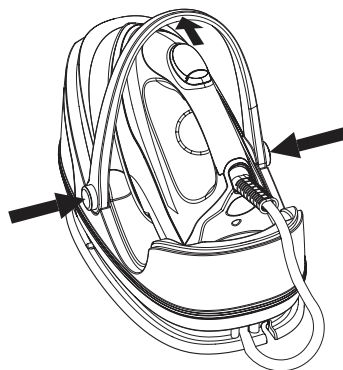

Fig.1
3. Remove the protective foil or sticker or card from the soleplate.(Fig. 1)